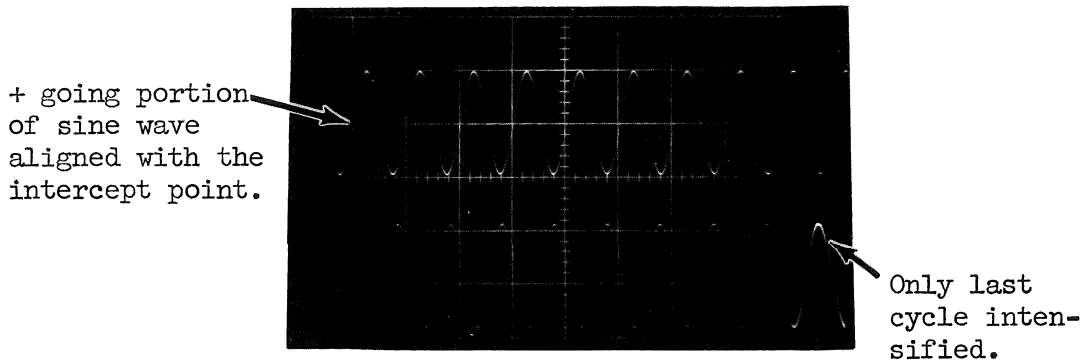

Figure 92
12. Set the DELAY TIME MULTIPLIER to 8.00 + the helidial reading in step 11. Adjust the 0.1 μ sec timing adjustment C90A so only the last cycle is intensified and a + (positive) going portion of the 10 MC sine wave on the delayed sweep is aligned with the intercept point. (See Fig. 92)